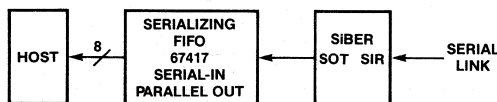
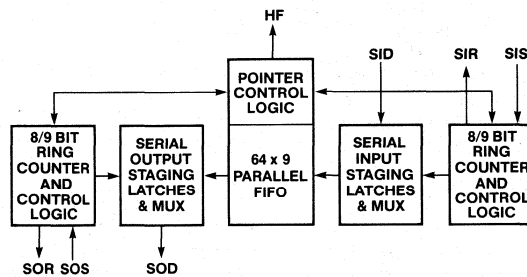
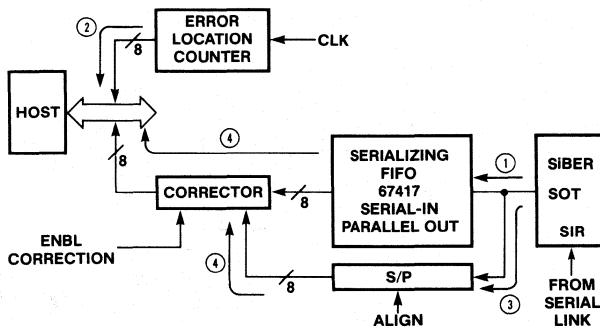

Figure 6b. The SiBER/Host Interface for Software Correction
Figure 7. The Three Modes of Operation for the 57/67417 Serializing FIFO
Figure 8b. The SiBER/Host Interface for Hardware/Software Correction
One of the elements, shown in Figure 6b and also referred to in Figure 8b, is the serializing FIFO, 57/67417. The serializing FIFO is an ideal IC for byte-oriented data buffering and serialization/deserialization capabilities. The applications of this part are in interfacing parallel-format computing equipment to serial-format data communications and mass memory equipment. The 67417 internally is a 64x9 FIFO, which can also be configured as a 64x8 FIFO using the Word Length (WL) pin. There are two serial ports, for input and output, and a 9-bit parallel port. The serializing FIFO has three modes of operation: it can be in (a) the Serial-In Parallel-Out mode, in (b) the Parallel-In Serial-Out mode, or in (c) the Serial-In Serial-Out mode. The part is cascadable in the parallel port, which runs up to 6 MHz. The serial port runs at 35 MHz. In order to build a deeper Serializing FIFO structure, the 67417 can be combined with ranks of two 67401s, which are 64x4 parallel-in parallel-out FIFOs also available from Monolithic Memories. Figure 7 shows the three modes of operation of the 67417.
The interface of the SiBER to the host requires a serializing FIFO, a serial/parallel register, an n-bit counter (dependent on data field), and a correction network which can be eight exclusive-OR gates, as shown in figure 8b. The sequence of events shown in figure 8b are as follows: Path 1 is the data field and the ECC field that are transferred to the serializing